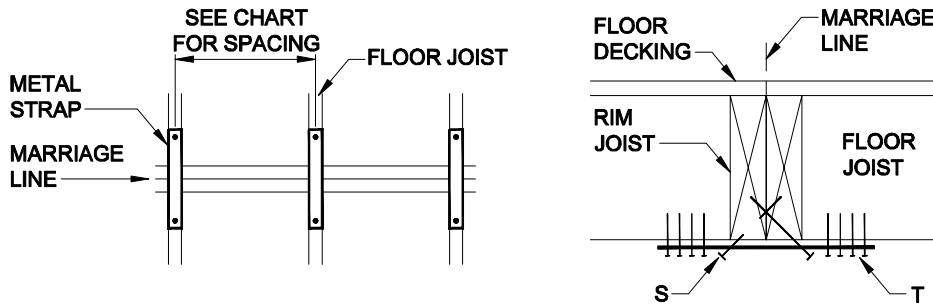
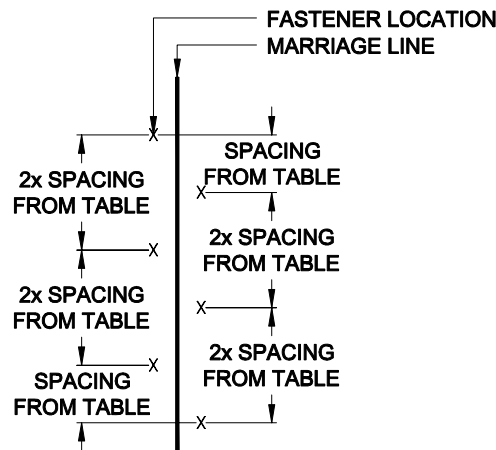

Figure 18. Floor connection through bottom board
Figure 18A. Staggered offset fastening along marriage line
Make connections according to the fastener specifications in **Table 13** and **Figure 18** and the metal strap specifications that follow. Spacing indicated in **Table 13** is on-center, both sides of marriage line. Fasteners on each side of marriage line shall be staggered and offset by twice the spacing distance (**Figure 18A**). Repair any tears or holes in the bottom board after installation of fasteners.
- Strap to be min 26ga 1-1/2" wide galvanized steel strap spaced per **Table 13A** and fastened with (10) 7/16" x 15ga staples or (9) 8d common nails each end per **Figure 18**. Strap length shall be sufficient to hold the required fasteners.